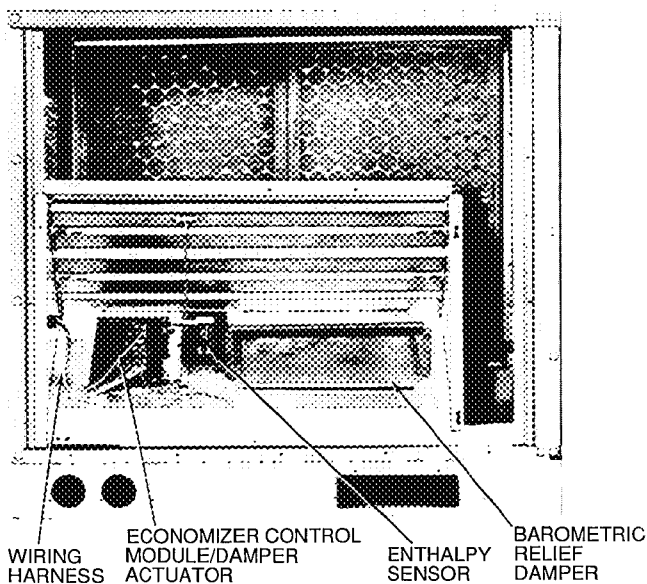

Fig. 24 — PARABLADE Economizer Installed in Unit
4. Insert economizer plug into economizer harness. Remove tape from barometric relief damper. See Fig. 24.